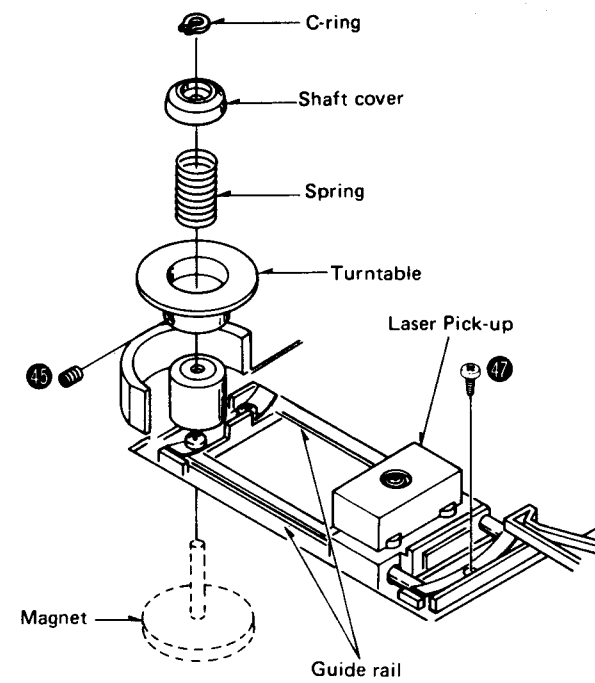

Fig. 18
3. Remove the C ring which fastens the magnet shaft of spindle motor. [Fig. 18]
4. Remove the screw [Fig. 18 : 45] by use of a hexagonal wrench, then the turntable can be removed.
5. Remove the guide rail retainer setscrew [Fig. 18 : 47] and pull out the laser pickup from the two guide rails.